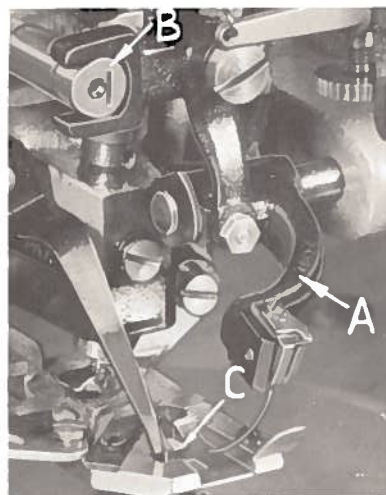
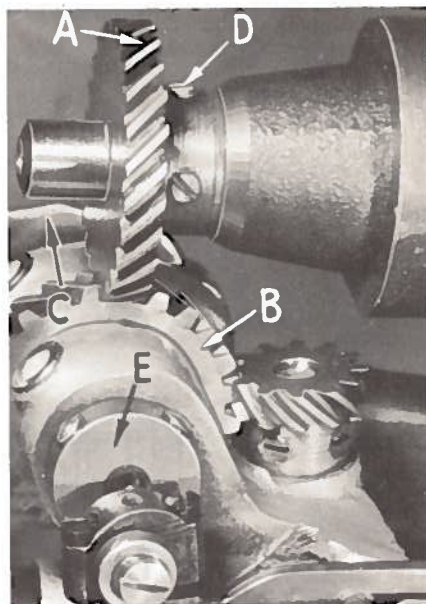
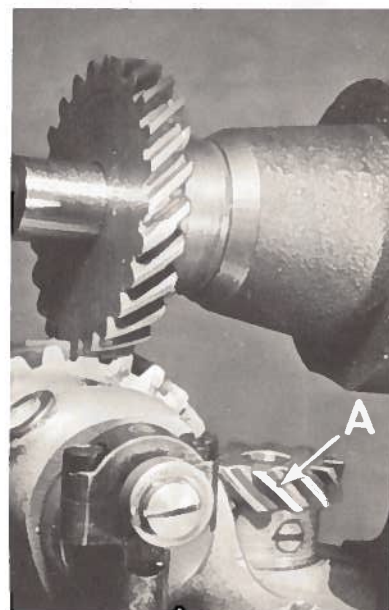
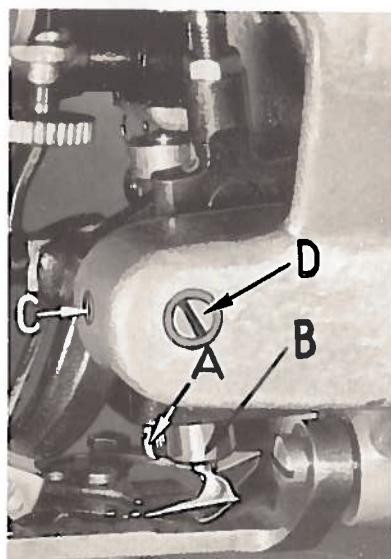

Fig. 3
Fig. 2
Fig. 6
Fig. 7
Remove head cover. With machine in stop position, remove gear (A, Fig. 2) from main shaft. Turn head main shaft gear (B) until the take-up lever (C) is at its highest point. Replace main shaft gear (A) with spot screw (D) in line with timing slot in main shaft. Tighten screws.
With machine in stop position, loosen screws in the needle drive crank (E, Fig. 2), and turn crank until needle carrier (A, Fig. 3) is at highest point of travel, and tighten screws in crank.
Loosen set screws in the looper drive shaft gear (A, Fig. 6). Turn pulley in operating direction until needle has reached the forward end of its left side travel and returned $\frac{3}{32}$ inch. Turn looper and its shaft so that the point of looper is over center of needle, and tighten set screws in gear (A). Lower point of looper as close to the needle as possible without deflecting the needle. Loosen screw (A, Fig. 7) to make this adjustment.
To check adjustment of needle height, turn the pulley in operating direction until screw (A, Fig. 7) in looper driving gear (B) points to right of machine. At this point the needle point should be approximately $\frac{1}{16}$ inch past the front edge of needle guide (C, Fig. 3) on presser foot, and just contacting needle guide.
If needle point strikes needle guard too far forward of the $\frac{1}{16}$ inch dimension, or too hard, an adjustment can be made by loosening set screw (C, Fig. 7) and inserting a screwdriver in slot of needle carrier eccentric shaft (D). Turn eccentric shaft as required to bring needle carrier up or down and tighten set screw. After making this adjustment check and be sure there is no play between needle and needle guide when needle point is over center of plunger No. 26-173. After making this adjustment it may be necessary to reset the adjustment under "Adjust Stroke of Needle" and "Timing the Looper".